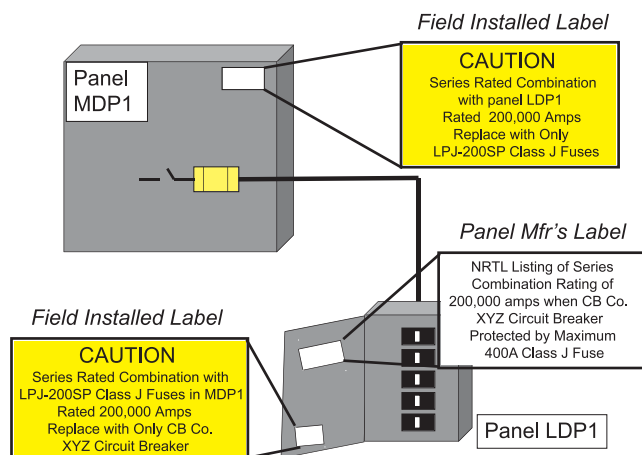

Figure 4
As discussed earlier, 240.86(B) requires that, when a series rated combination is used on a new installation, the switchboard, panelboard or other equipment be tested, listed and **factory marked** for use with the series rated combinations to be utilized. See Figure 4 for the 110.22 & 240.86(B) labeling requirements illustration.
This section places responsibility on the **installer** (electrical contractor) to **affix labels** on the equipment enclosures, which note the series combination interrupting rating, and call out the specific replacement overcurrent protective devices to be utilized. If the upstream overcurrent protective device protecting the downstream circuit breaker is in a different enclosure, then both enclosures need to have field-installed labels affixed. See Figure 4 for the 110.22 & 240.86(A) & (B) labeling requirements illustration.